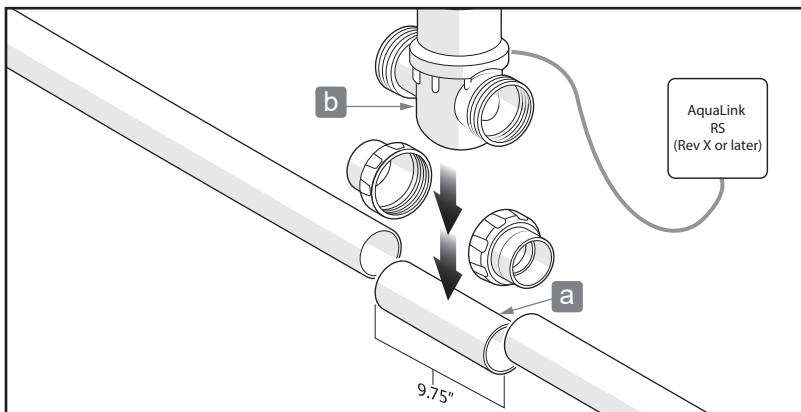

Figure 1. Install Jandy TruSense on the Pipe
3. Cut and remove 9.75" of the existing pipe to fit Jandy TruSense, see Figure 1(a).
6. Connect the four conductor RS485 cable (red connector) to the automation system, see Figure 1(b)